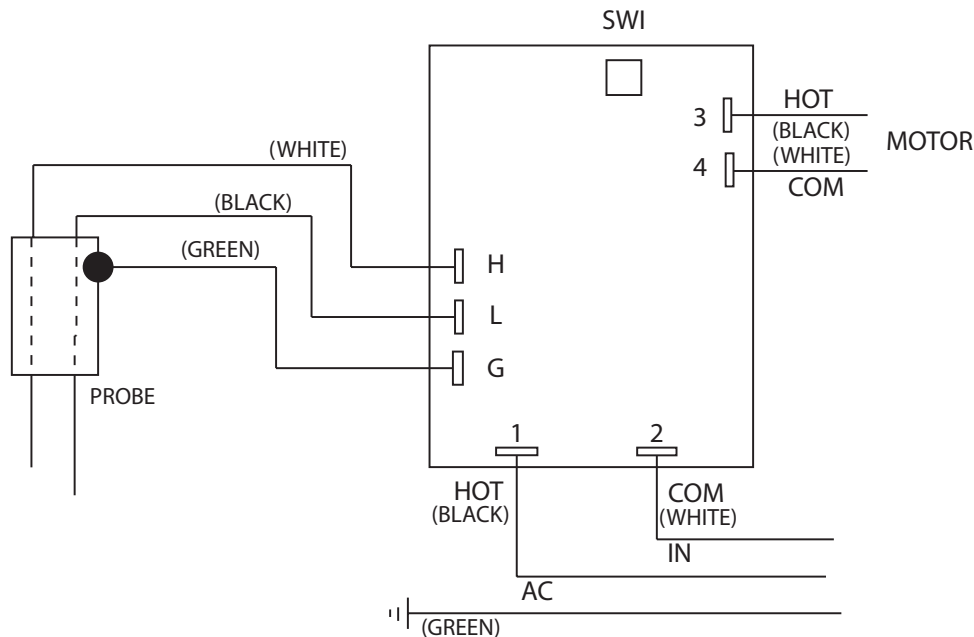

Figure 1
- Reconnect wires 1, 2, 3, 4, H, L, and G to the LLC Board (see Figure 1). For Non-diagnostic applications confirm SW1 pos 1 is off.
- Install Carbonator Control Box Cover. Secure the Cover with the two (2) Enclosure screws.